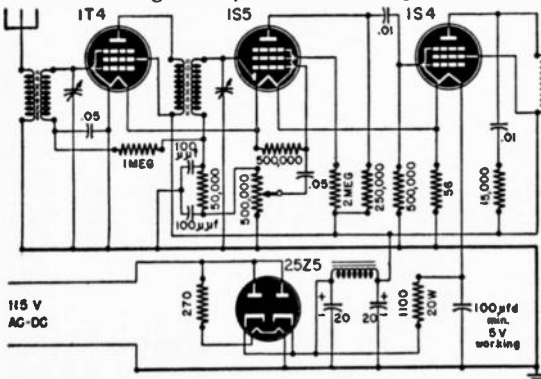

Fig. 113
A. Diagram and all constants are given in Fig. 113. Filament supply is bridged by a condenser of at least 100 μ f. You might parallel several units to obtain a large value, the